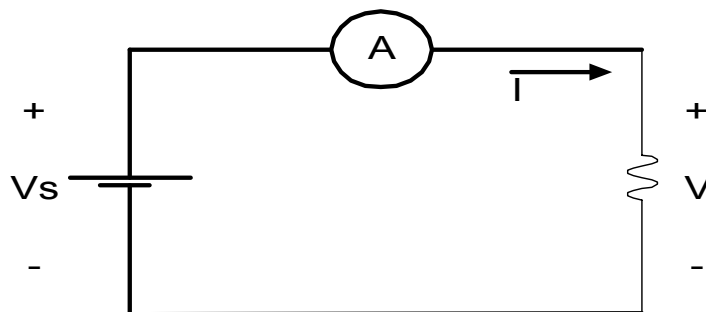

Figure 2
- 3- Connect the circuit as shown in Figure 2 for $R = 100 \Omega$ and perform the following :